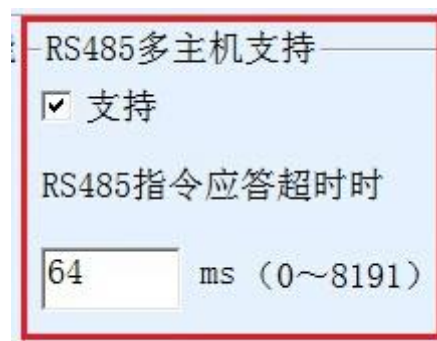
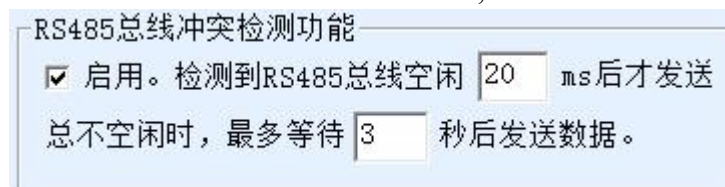

Figure 47 RS485 Multi-host support
Figure 48 RS485 Conflict prevention idle time
1. Figure 48 shows the RS485 bus collision prevention time. Generally, you can set it to twice the value of Packet Interval in the lower right corner of the parameter configuration page, but the value cannot be less than 20.
2. Figure 47 shows the "RS485 command response timeout time", which is generally determined by the length of the command to and from the reply. If the send command is N bytes and the reply is M bytes, the recommended value is "Packet Interval" x (N+M+5) +100。
At this time, it should be noted that the two check marks "RS485 bus collision prevention time" as shown in Figure 48 and "RS485 command response timeout time" as shown in Figure 47 need to be removed. Otherwise, the preceding forwarding function cannot be implemented.